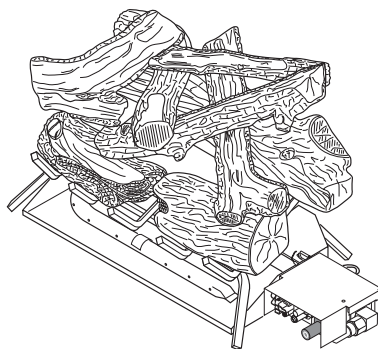

Figure 16 - Placement of Top Logs (Manchester Split Oak Logs Shown)
5. Place smaller top logs onto bottom logs (see Figure 16, page 11). Leave as much open space between logs as possible to minimize flame impingement and sooting.